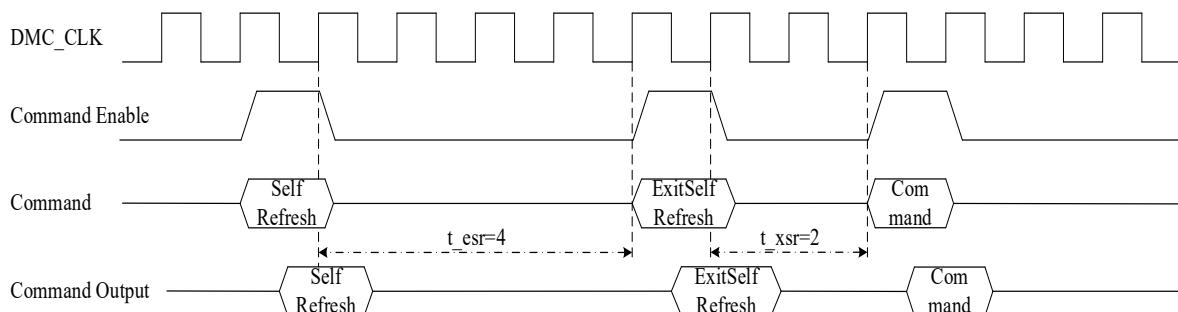

Figure 40-27 Entry and exit timing of self-refresh action
Self-refresh (SR) is mainly used for data preservation in the low-power state of sleep mode. The self-refresh mode is entered when DMC_CKE is in an invalid state during the AR command. During SR, SDRAM no longer relies on the DMC_CLK clock to work, but performs the refresh operation according to the internal clock of SDRAM. During SR, all external signals except DMC_CKE are invalid (no need to provide external refresh commands). When the DMC changes from the Pause state to the Low Power state (by issuing the Sleep command), it automatically issues a self-refresh command. Figure 40-27 is the entry and exit timing diagram of the self-refresh action.